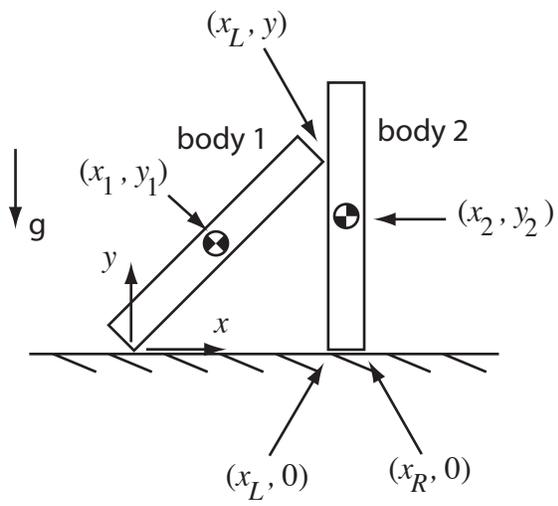

Figure 4: One body leaning on another.
**5.** In Figure 4, body 1, of mass  $m_1$  with center of mass at  $(x_1, y_1)$ , leans on body 2, of mass  $m_2$  with center of mass at  $(x_2, y_2)$ . Both are supported by a horizontal line, and gravity acts downward. The friction coefficient at all four contacts (one at  $(0, 0)$ , one at  $(x_L, y)$ , one at  $(x_L, 0)$ , and one at  $(x_R, 0)$ ) is  $\mu > 0$ . We want to know if it is possible for the assembly to stay standing by some choice of contact forces within the friction cones. Write the six equations of force-balance for the two bodies in terms of the gravitational forces and the contact forces, like we did in class, and express the conditions that must be satisfied for it to be possible for this assembly to stay standing. (All your conditions should be specified mathematically, so if we plugged in specific values for  $m_1$ ,  $(x_1, y_1)$ , etc., the problem could be solved immediately using Matlab, Mathematica, or similar software.)